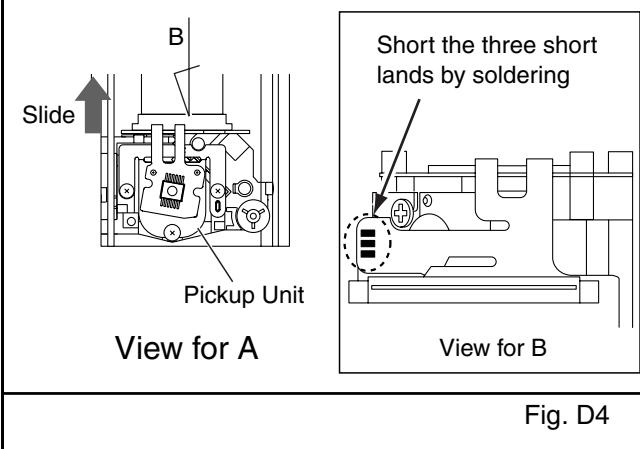

Fig. D4
- 2-1. Short the three short lands of FPC cable with solder before removing the FFC cable (CN201) from it. If you disconnect the FFC cable (CN201), the laser diode of pickup will be destroyed. (Fig. D4)
- 2-2. Disconnect Connector (CN301). Remove two Screws (S-5) and lift the DVD Main CBA. (Fig. D4)
CAUTION 3: When reassembling, confirm the FFC cable (CN201) is connected completely. Then remove the solder from the three short lands of FPC cable. (Fig. D4)